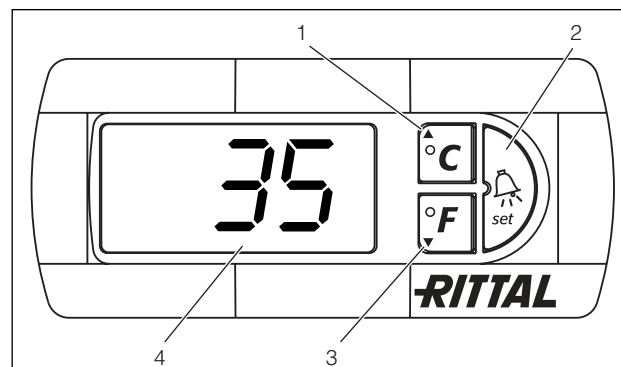

Fig. 16: Comfort controller
The Comfort controller has a 7-segment display (Fig. 16, no. 4). After switching on the power supply, the current software version initially appears on this display for approx. two seconds. In regular operation, the display shows both the temperature (in degrees Celsius or Fahrenheit – users may switch between the two) and any error messages.
The current enclosure internal temperature is usually displayed permanently. In the event of an error message, this will alternate with the temperature display. The unit is programmed using buttons 1 – 3 (Fig. 16). The relevant parameters also appear in the display.
- Simultaneously press buttons 1 and 2 (Fig. 16) for at least ten seconds.
Using buttons 1, 2 and 3 (Fig. 16) you can change 24 parameters within the preset ranges (min. value – max. value).